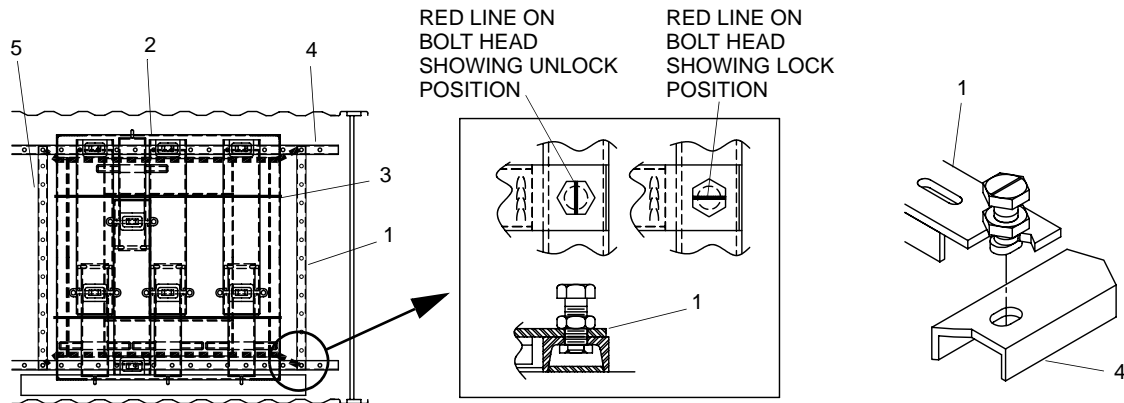
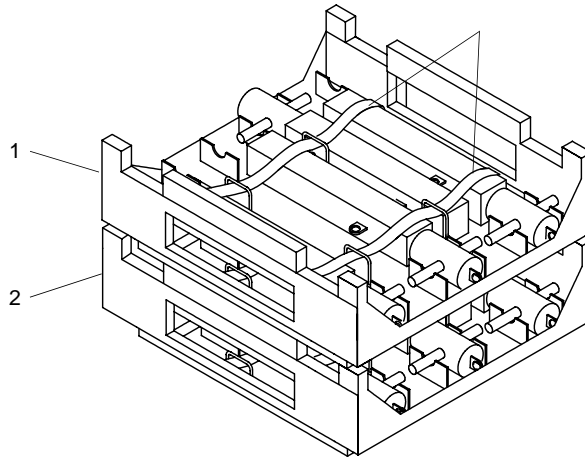

Figure 12. 4 ft by 12 ft Fender Container
Figure 13. Mooring Bitt Pallets
3. Remove track stop (figure 12, item 1) from in front of mooring bitt pallets (figure 12, item 2).
4. Unhook front ends of two ratcheting tie down straps (figure 12, item 3) securing pallets (figure 12, item 2) to track (figure 12, item 4). Pull straps toward rear of container and place them out of the way.
5. Using forklift, remove upper mooring bitt pallet (figure 13, item 1) from container.
6. Using forklift, remove lower mooring bitt pallet (figure 13, item 2) from container.
11. Using forklift, place lower mooring bitt pallet (figure 13, item 2) in container, pushing it against track stop (figure 12, item 5).
12. Using forklift, place upper mooring bitt pallet (figure 13, item 1) on top of lower pallet (figure 13, item 2).
13. Route two ratcheting tie down straps (figure 12, item 3) through fork openings in upper mooring bitt pallet (figure 13, item 1) and hook front ends to track (figure 12, item 4). Tighten tie down straps (figure 12, item 3).